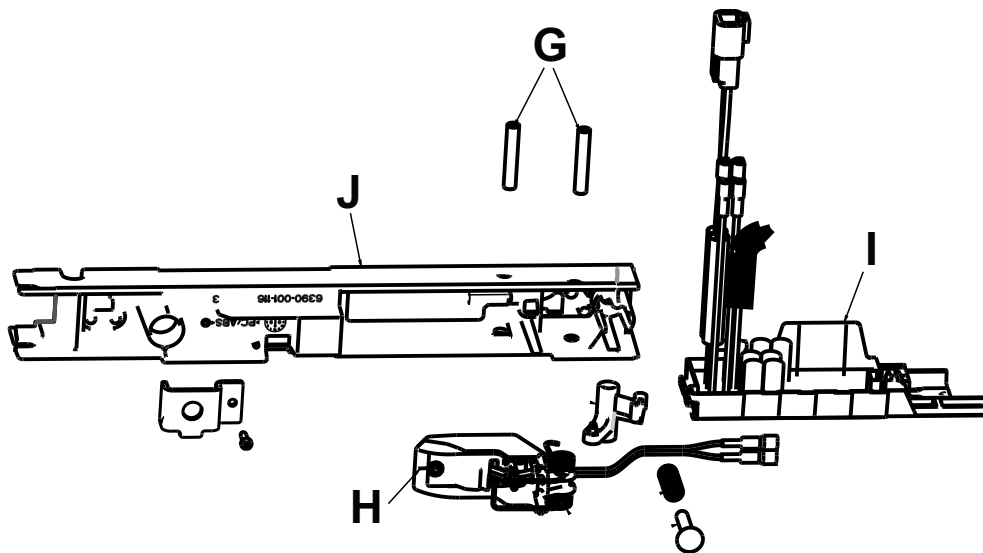

Figure 47 – Unplug coil wires from the inductive primary board
12. Remove the anchor pivot pin (G) that holds the anchor coil assembly (H) to the anchor housing (J) (Figure 47). Save the pin.
13. Unplug the coil wires from the inductive primary board (I) (Figure 47). Discard the anchor coil assembly.